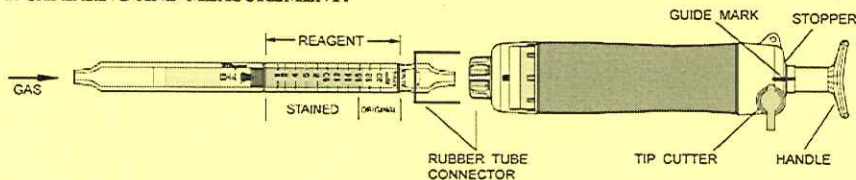

Fig.1
- ② Insert the detector tube into the aspirating pump securely as shown in Fig.1. (Arrow mark shall point to the pump.)
- ③ Align the guide marks on the shaft and stopper of the aspirating pump.
- ④ Pull the pump handle at a full stroke until it locks and wait for 1.5 minutes or until the completion of sampling is confirmed with the flow indicator of the pump. (See descriptions about the flow indicator in the instruction manual of the pump.)
- ⑤ On completion of sampling, read the scale at the maximum point of the stained layer.
- ⑥ When the concentrations are below the scale range, 2 pump strokes can be used to determine these lower concentrations.
- ⑦ When the concentrations are over the scale range, a 1/2 pump stroke can be used to determine these higher concentrations.